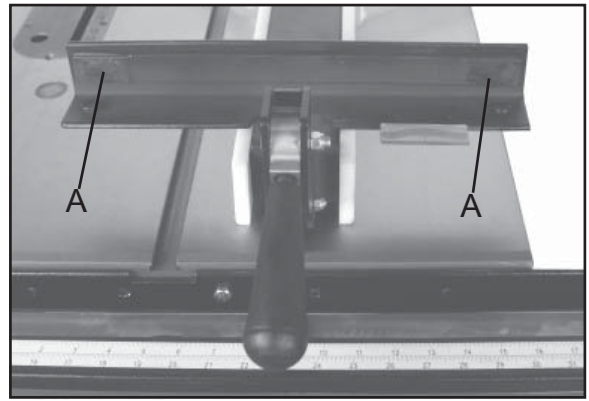

Figure 14
4. Adjust one of the two set screws (A, Fig. 14) until the fence is even with the miter slot edge along its entire length when locked.